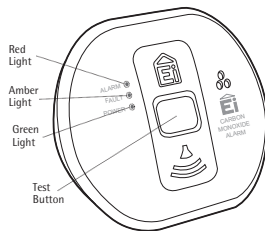

Figure 5
8. Press the Test button (after 15 seconds) to ensure that the Alarm works (see figure 5).